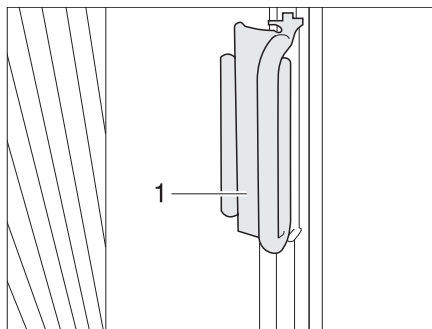

Fig. 26 Locking mechanism for Roman shades on driver's/front passenger's windows
- On the Roman shades for the driver's and passenger's window, push the handle (Fig. 26,1) onto the cap. The Roman shade is secured.